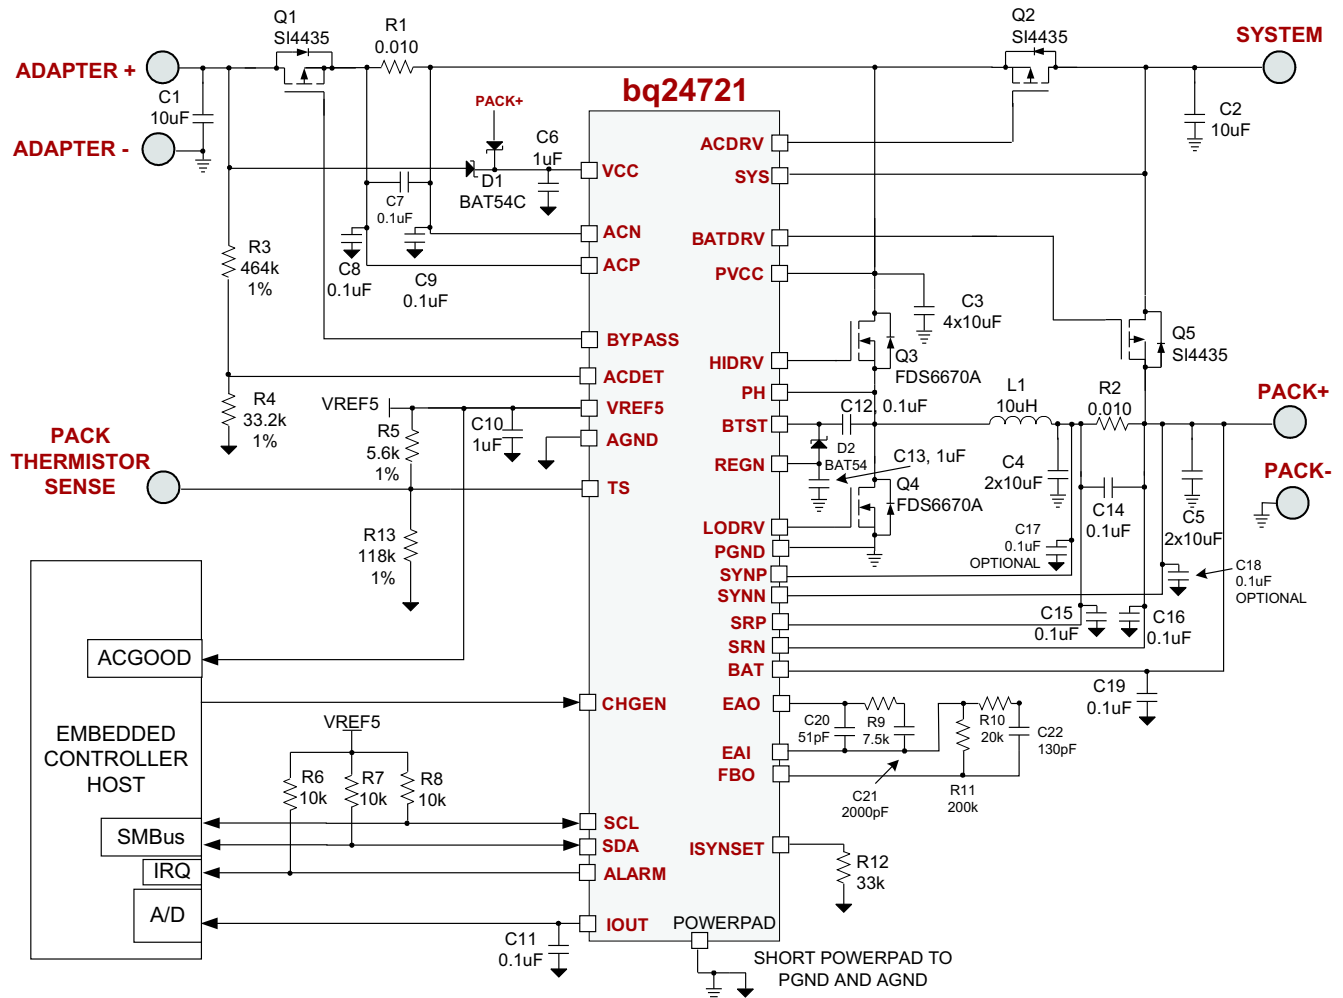

Figure 53. bq24721 SBS-Like SMBus Host Control With System Power Selector (bq24721 With TS Themistor Sense Input Pin)
BOM Key Components (For Figure 53, bq24721 Typical Application Circuit)
(1) The manufacturer's part number are used for test purposes only.
**BOM Key Components (For Figure 53, bq24721 Typical Application Circuit) (continued)**